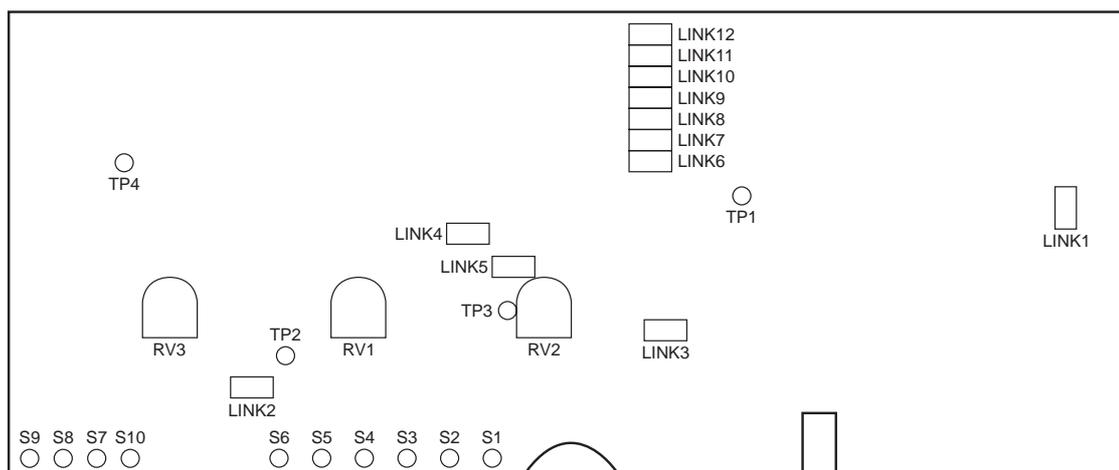

Figure 5 T800-30-0000/0002 Link Location - Top Side
8. The T800-30-0000/0002 PCB links are set for UHF operation and 512 baud data rate. For the location of the PCB links refer to Figure 5.